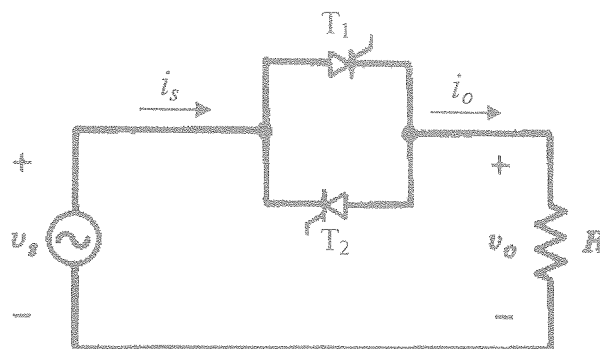

Figure Q5: ac voltage controller.
- b) A single-phase, phase-angle controlled, ac voltage controller is shown in Figure Q5. The input voltage  $v_s = 325 \sin \omega t$ , and the delay angles of thyristors  $T_1$  and  $T_2$  are  $\pi/3$  and  $\pi + (\pi/3)$ , respectively. It has a resistive load of  $R = 10 \Omega$ . Assume that the thyristors in the circuit have ideal characteristics.